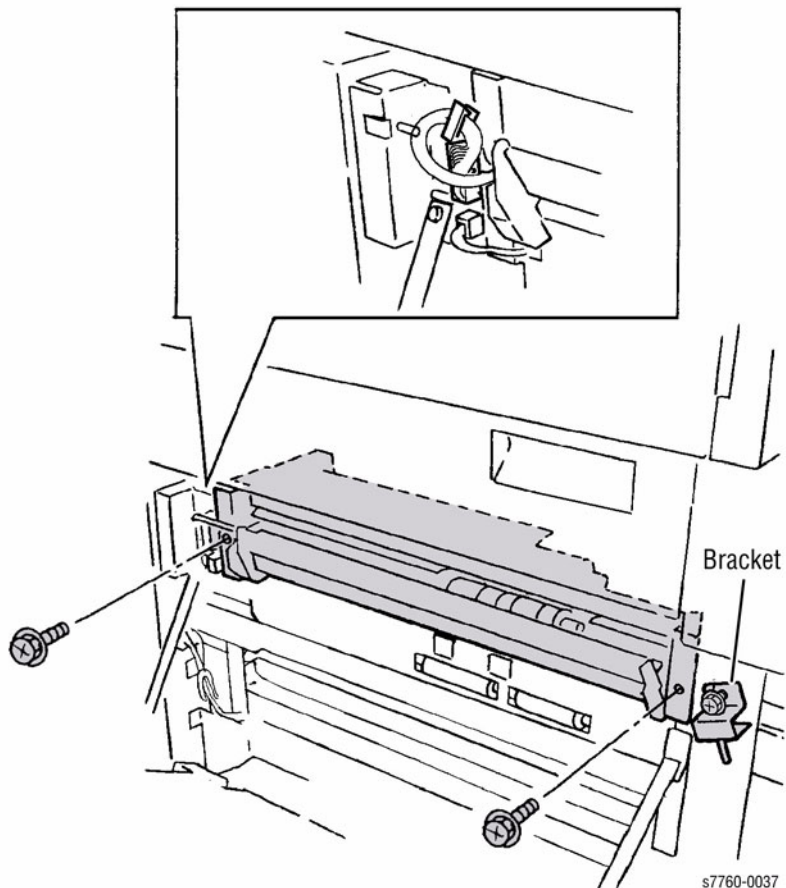

Figure 1 Removing the Tray 3 Feeder
3. Removing Tray 3 Feeder (Figure 1).